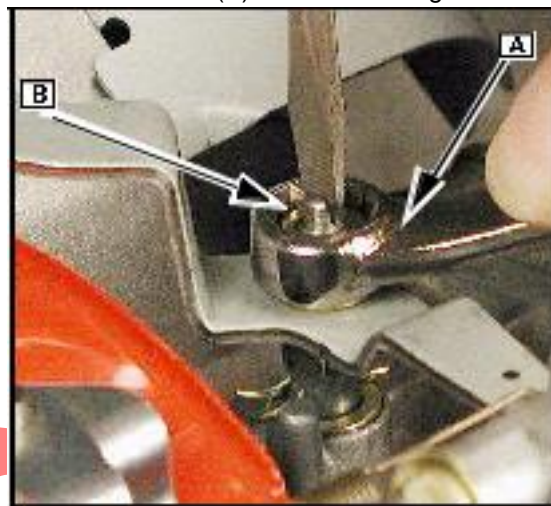

Fig. 4
Slip a box-end wrench (A) on the top nut (Fig. 4).
While holding governor shaft (B), loosen nut (A) as shown in Fig. 4.